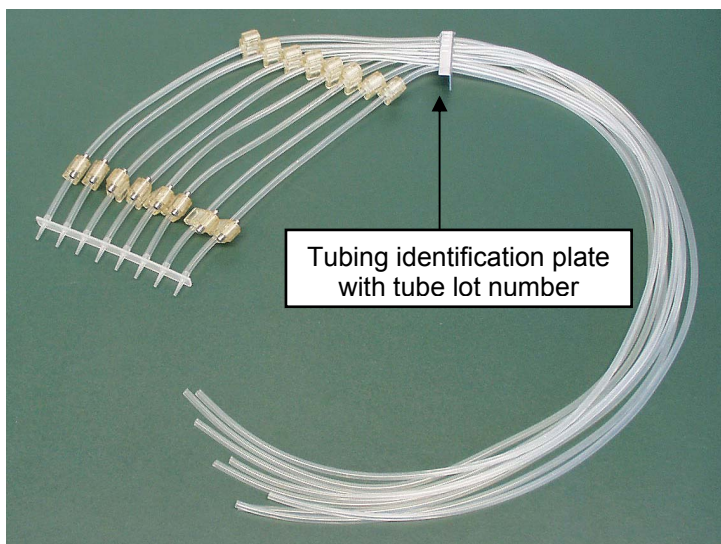

Fig. 7.15 New tubing set with the tip band attached
1. First place the new tubing set onto the laboratory bench with the tip band attached (*Fig. 7.15*). Ensure that you have saved the eight calibration screws and the tubing weight from the previous tubing set.